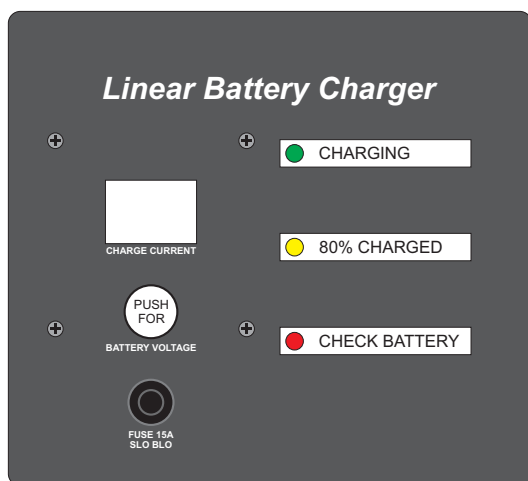

Figure 3-10. Battery Charger Faceplate
- ❑ Plug the extension cord into outlet. Verify that the green CHARGING indicator LED is lit on the battery charger faceplate (Figure 3-10).